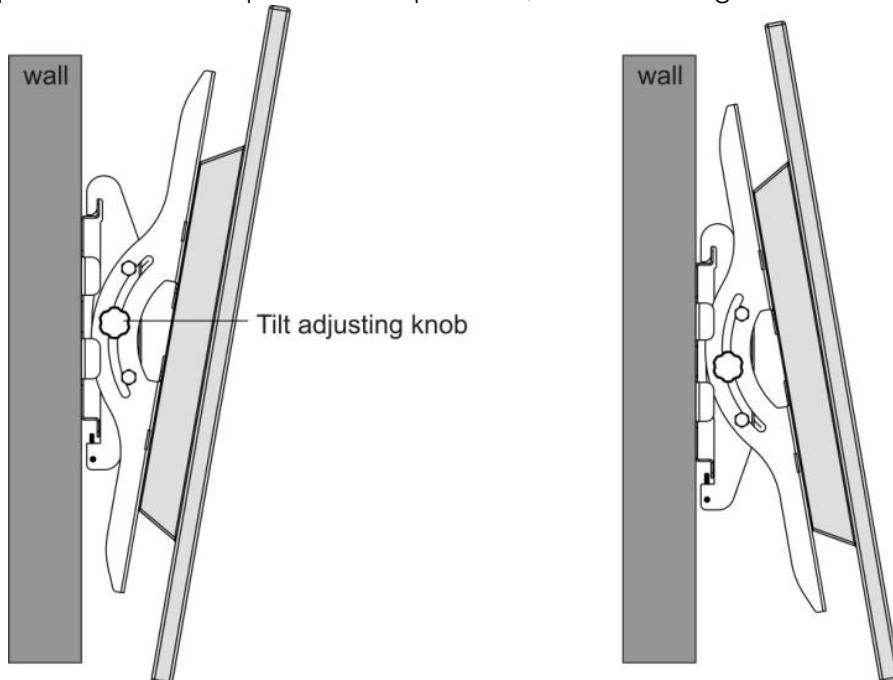

Fig. 8
- After the wall mounting bracket has been safely secured to the wall, carefully lift your TV (with 2 people) and hook the top hooks over the top of the wall plate rail, as shown in Fig. 8.